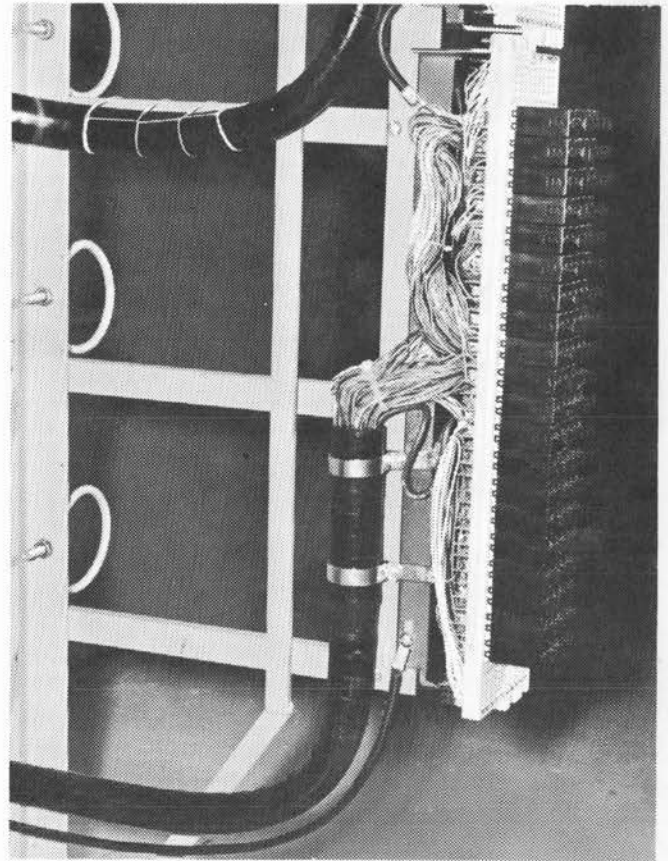

Figure 12.
- 5.07 The clamps on the pressure plug of the connector stub should be carefully bent to the vertical mounting bar, so the stub cable can be out of the way for future work at the frame. (See figure 12.)